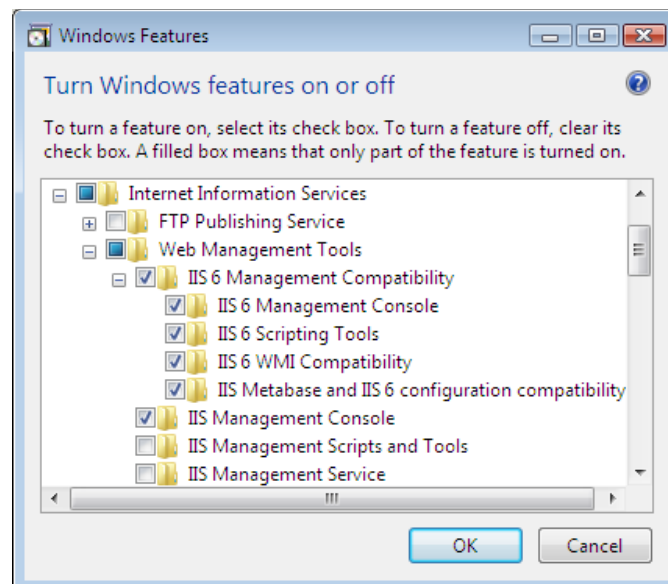

Figure 22: Windows Features Window – Internet Information Services
3. Expand **Internet Information Services | Web Management Tools | IIS 6 Management Compatibility**. Verify that all its branches are checked as shown in Figure 22.